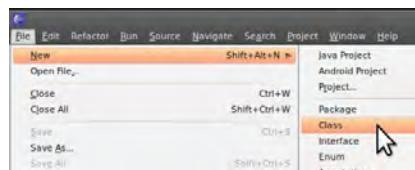

Figure 8-70. Selecting the new class
- Give the class the name **TBlue** (the name is case-sensitive) and set the package to **fi.sulautetut.android.tblueclient**. Leave everything else at its default. See Figures 8-70 and 8-71.